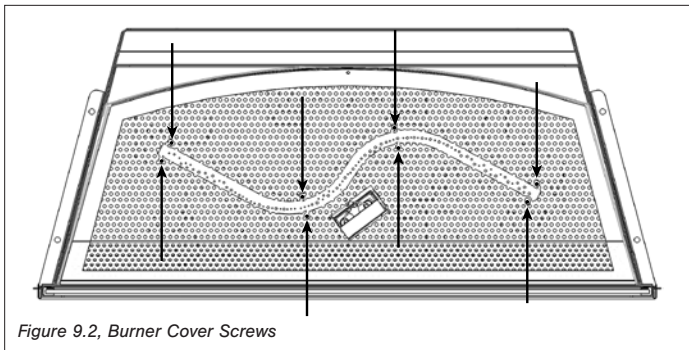

Figure 9.2, Burner Cover Screws
1. Remove (8) screws securing burner cover, then lift the cover out of firebox. See section Figure 9.2.